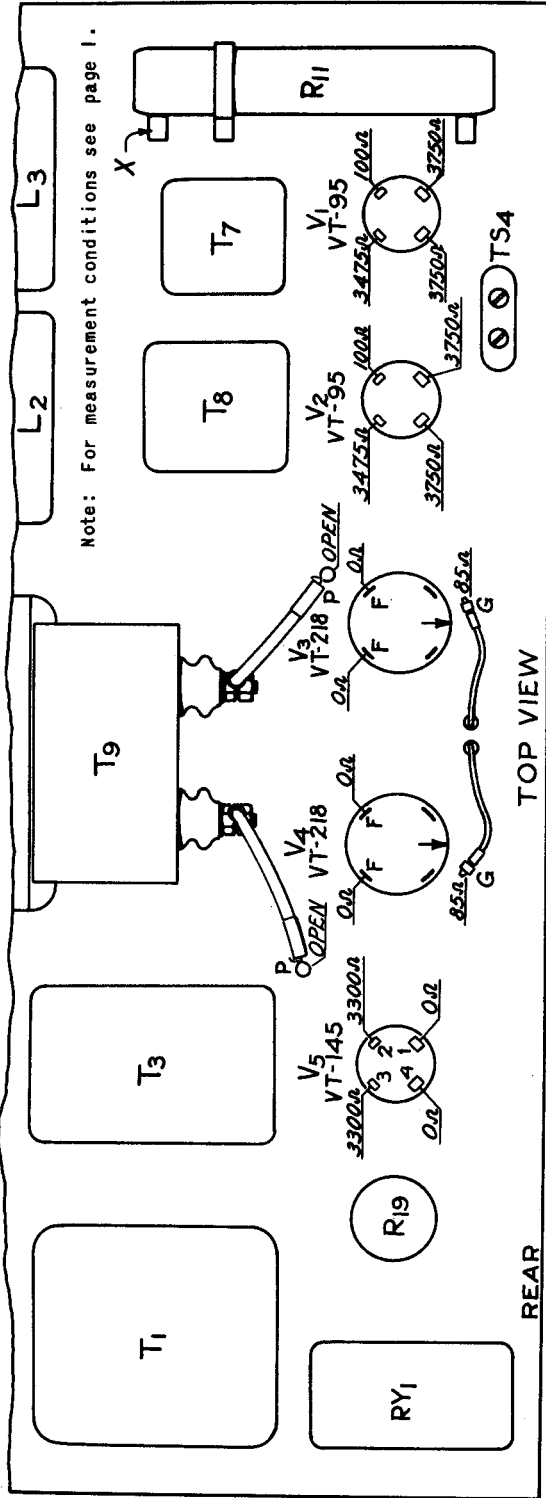

Fig. 2.—Resistance measurements—Mod. Deck.
- c. Front terminal of large tubular resistor (R₁₁) at end of Modulator deck near T₇. (Point "X" on fig. 2.)